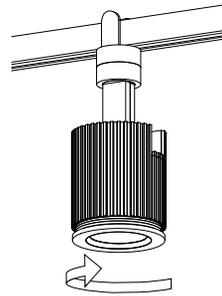

Fig. 31
2. Screw the **Trim Ring** into the **Cylinder Light Engine**. (Fig. 31)